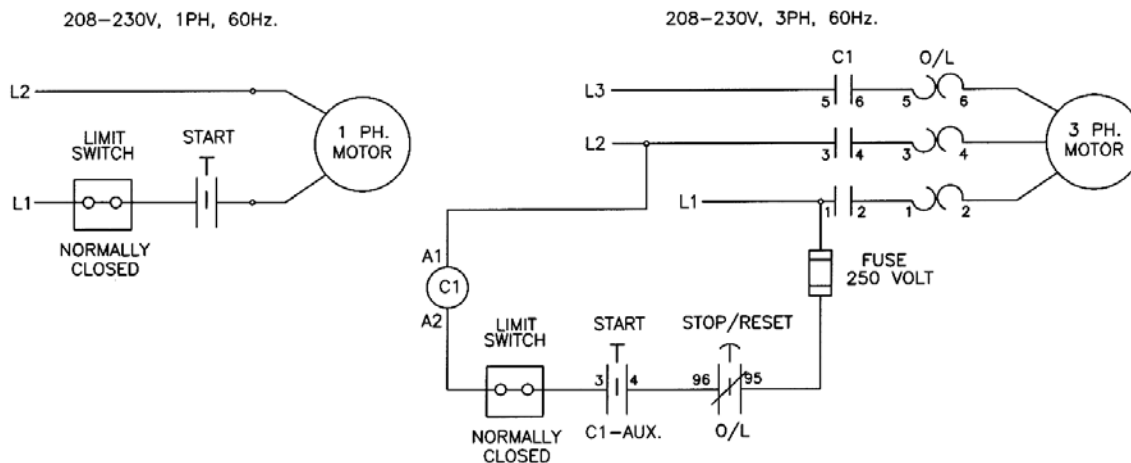

Figure 11 – Electrical Diagram
2. Bolt power pack to the mounting bracket on the power side tower using four (4) 5/16" UNC x 1" LG. hex head bolts, four (4) 5/16" ID lock washers, four (4) 5/16" ID flat washers and four (4) 5/16" UNC hex nuts. Do not tighten.
4. A **certified electrician** must connect power to the motor. The electrical diagram is provided, refer to **Figure 11**.